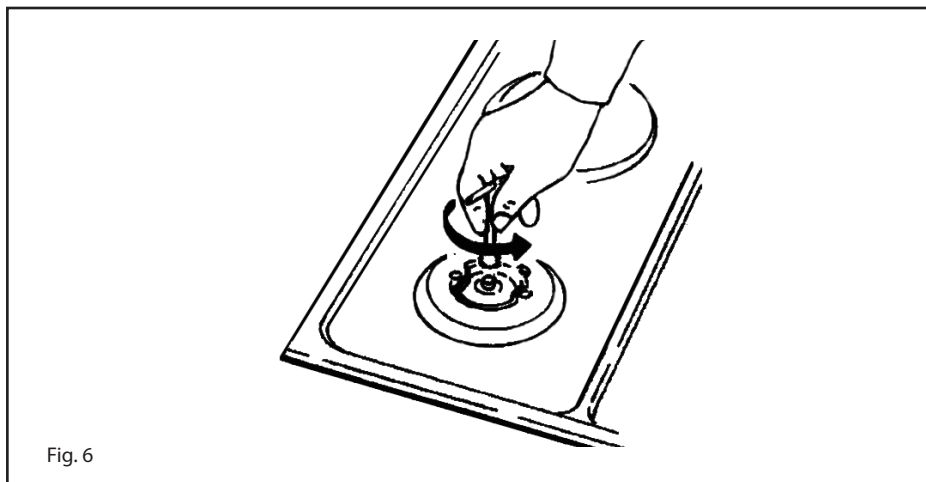

Fig. 6
(Fig. 6) Should the appliance be pre-set for a different type of gas than that available, proceed as follows:
- replace the injectors (Fig. 6) with the corresponding type of gas to be used (see table "Injector characteristics").